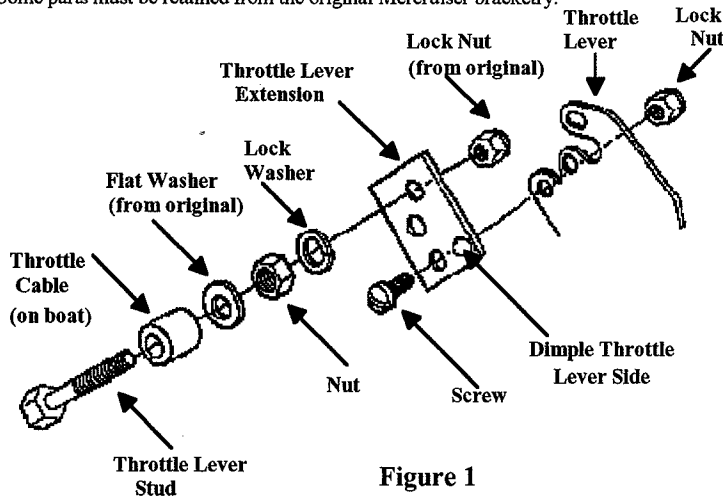

Figure 1
3. Attach the throttle lever extension provided to the throttle lever. See Fig. 1. **NOTE:** The "dimple" in the extension must go into the center hole of the throttle lever. The extension stud must attach to the top corner hole of the throttle lever.
4. Attach the throttle cable to the carburetor throttle lever with parts from the kit as shown in Fig. 1. **NOTE:** The small lock nut and flat washer used are from the original Mercruiser installation. If the lock nut has been tightened more than twice, a new one must be purchased.